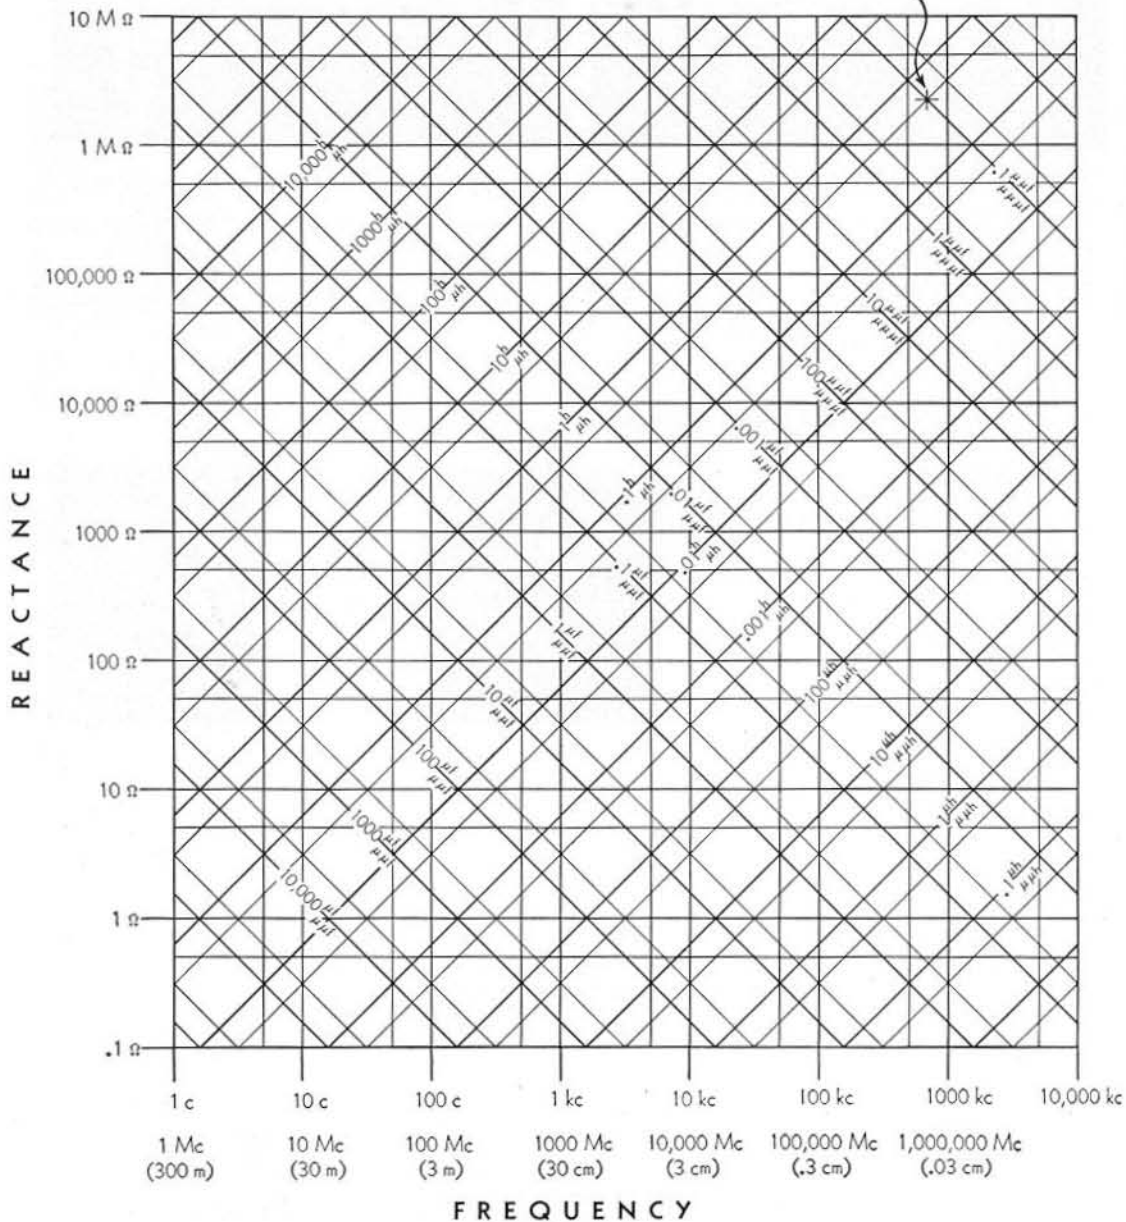
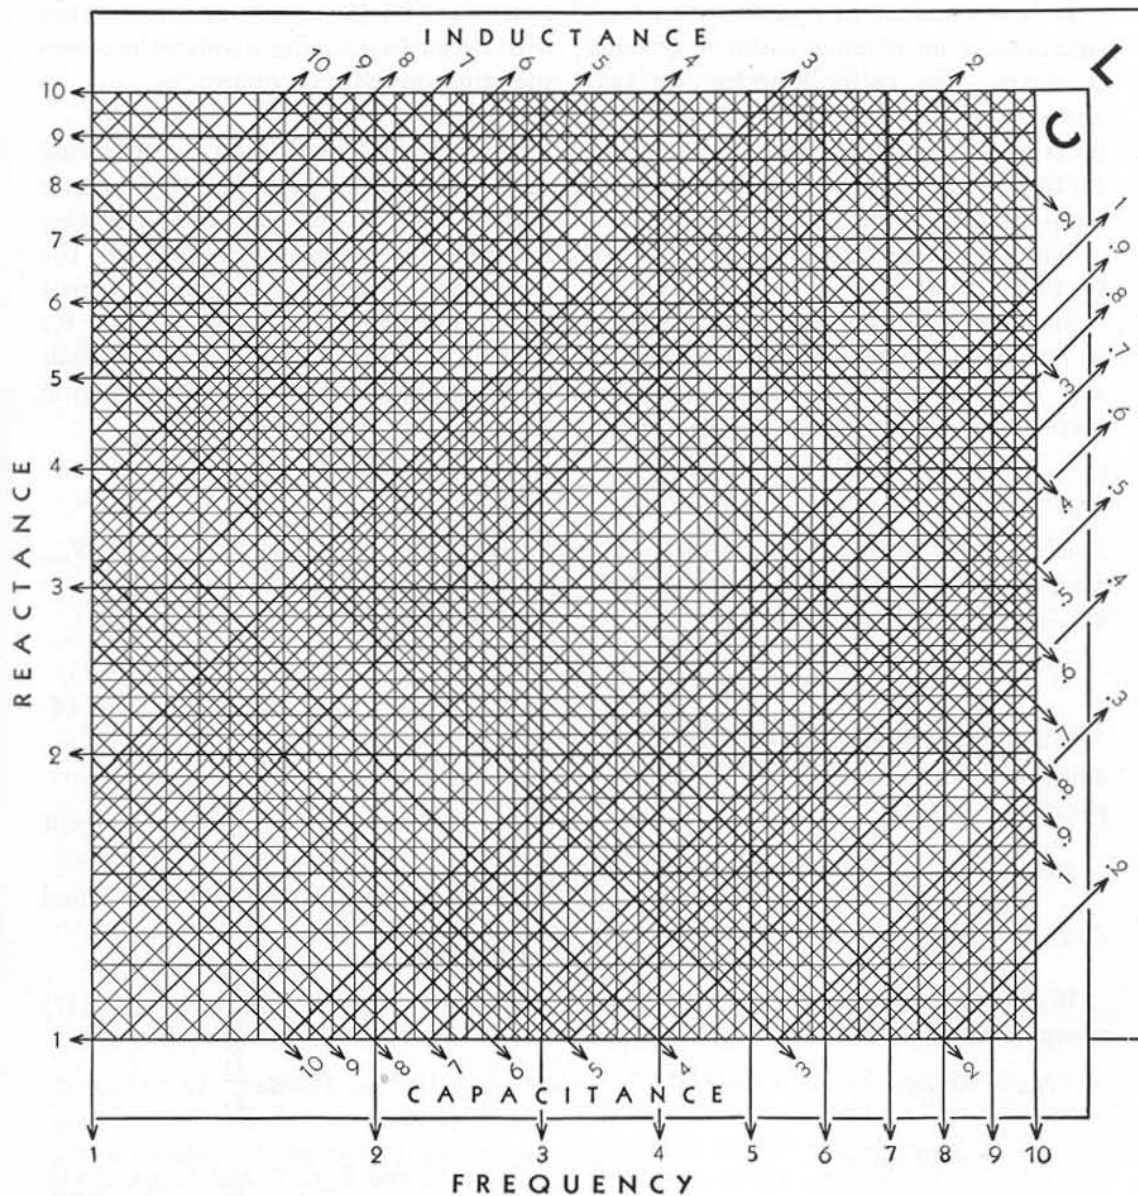

FIG. 1
FIG. 2
In order to facilitate the determination of magnitude of the quantities involved to two or three significant figures the chart is divided into two parts. Figure 1 is the complete chart to be used for rough
calculations. Figure 2, which is a single decade of Figure 1 enlarged approximately 7 times, is to be used where the significant two or three figures are to be determined.
Always obtain approximate value from Figure 1 before using Figure 2
*Example:* The sample point indicated (Figure 1) corresponds to a frequency of about 700 kc and an inductance of 0.5 henry, or a capacitance of 0.1  $\mu\text{mf}$ , giving in either case a reactance of about 2,000,000 ohms. The resonant frequency of a circuit containing these values of inductance and capacitance is, of course, 700 kc, approximately.
### USE OF FIGURE 2
Figure 2 is used to obtain additional precision of reading but does not place the decimal point which must be located from a preliminary entry on Figure 1. Since the chart necessarily requires two logarithmic decades for inductance and capacitance for every single decade of frequency and reactance, unless the correct decade for L and C is chosen, the calculated values of reactance and frequency will be in error by a factor of 3.16.